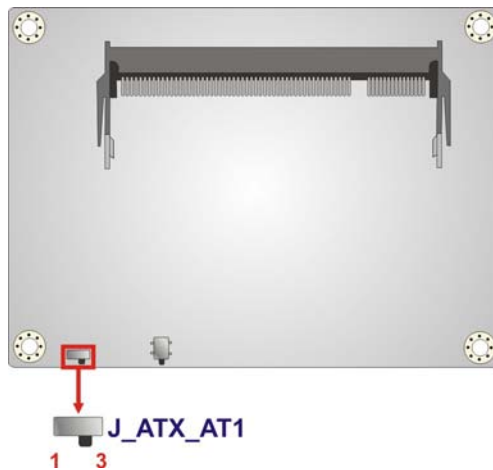

Figure 3-3: AT/ATX Mode Select Switch Location
- CN Location: See **Figure 3-3**
The location of the AT/ATX mode select switch is shown in **Figure 3-3** below.